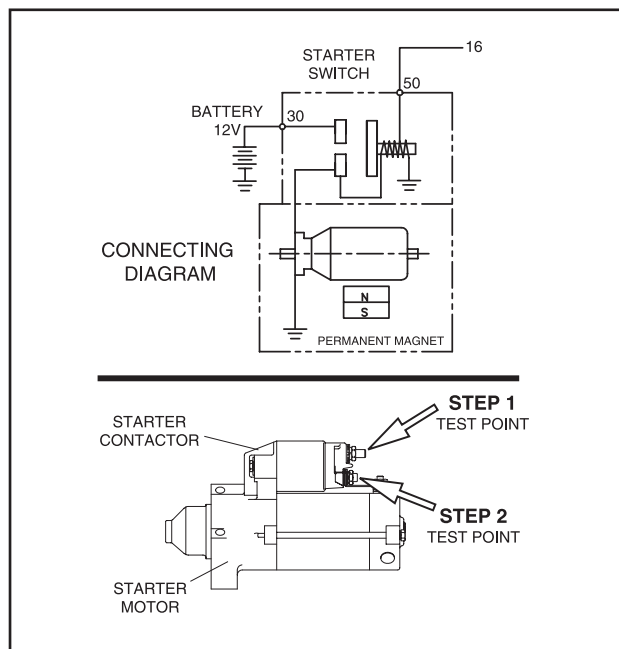

Figure 7-20. – The Starter Contactor (SC)
The Starter Contactor (SC) must energize and its heavy duty contacts must close or the engine will not crank. This test will determine if the Starter Contactor is in working order. The Starter Contactor is connected to the Starter Motor (see Figure 7-20).
1. Carefully inspect the starter motor cable that runs from the Battery to the Starter Motor. Cable connections should be clean and tight. If connections are dirty or corroded, remove cable and clean cable terminals and studs. Replace any cable that is defective or badly corroded. Set the VOM to measure DC voltage. Connect the positive (+) meter test lead to the Starter Contactor stud that the battery cable is connected to. Connect the negative (-) meter test lead to a clean frame ground. Battery voltage should be measured (see Figure 7-20, **STEP 1 TEST POINT**).
3. Set the VOM to measure DC voltage. Connect the positive (+) meter test lead to the Starter Contactor stud that has the small jumper wire connected to the Starter. Connect the negative (-) meter test lead to a clean frame ground. Set the Start-Stop Switch to "START". Battery voltage should be measured (see Figure 7-20, **STEP 2 TEST POINT**).